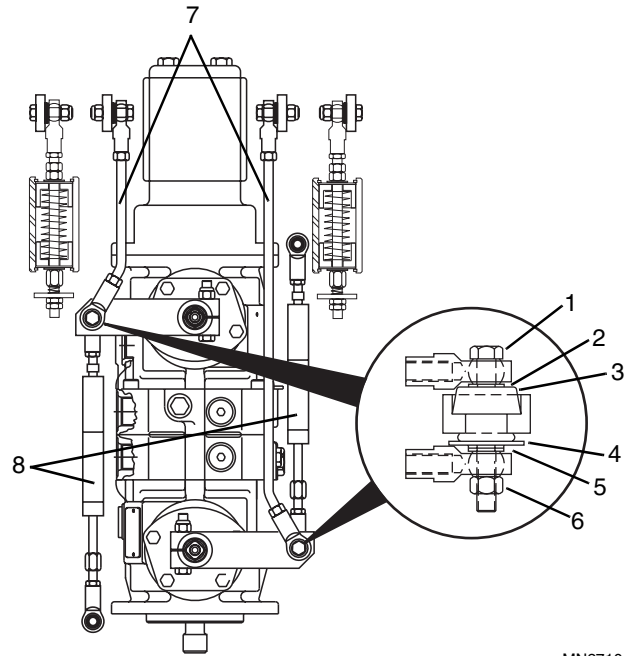

Figure 5-12 Control Pump Linkage Disassembly
12. Remove the capscrews (Fig. 5-12, 1), flat washers (2), rubber isolators (3), rebound washers (4), flat washers (5), and hex locknuts (6) that fasten the transmission control linkage (7) and shock absorbers (8) to the transmission levers on both sides of the control pump assembly.